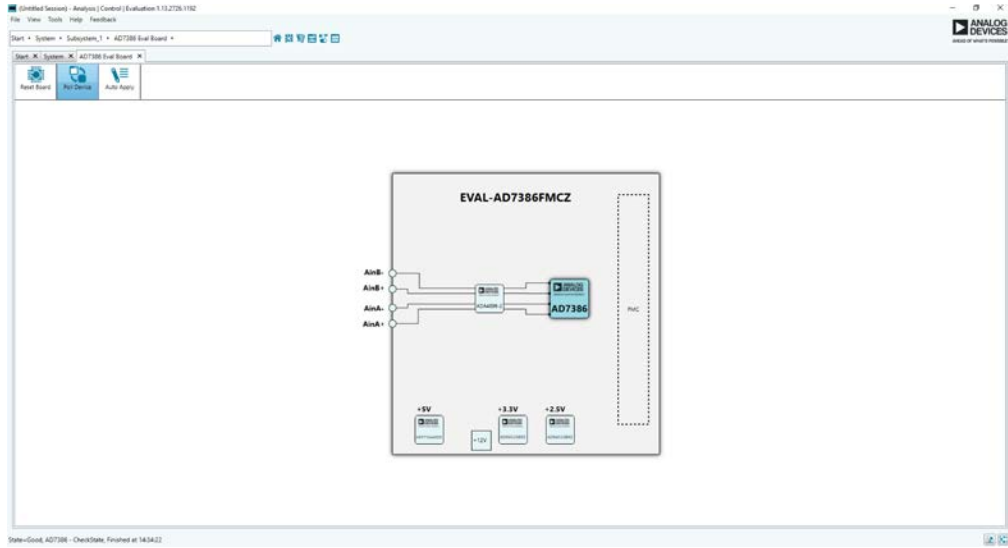

Figure 13. Board View
2. If the EVAL-AD7386FMCZ evaluation board is not connected to the USB port via the EVAL-SDP-CH1Z when the software is launched, the **AD7386 Eval Board** icon does not show up in the **Attached Hardware** section. Connect the EVAL-AD7386FMCZ and EVAL-SDP-CH1Z to the USB port of the PC and wait a few seconds. Then, follow the instructions. Double-click the **AD7386 Eval Board** icon to view the board view (see Figure 13).